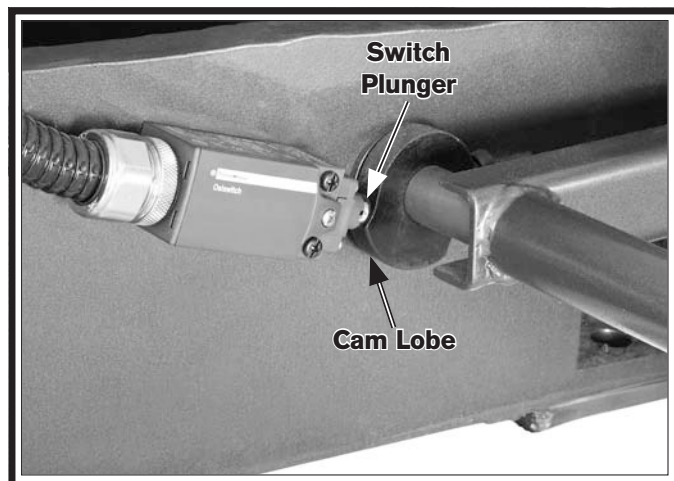

Figure 128. Brake switch.
6. Have another person step on the brake pedal while you verify that the cam lobe shown in **Figure 128** makes the brake switch plunger click in.